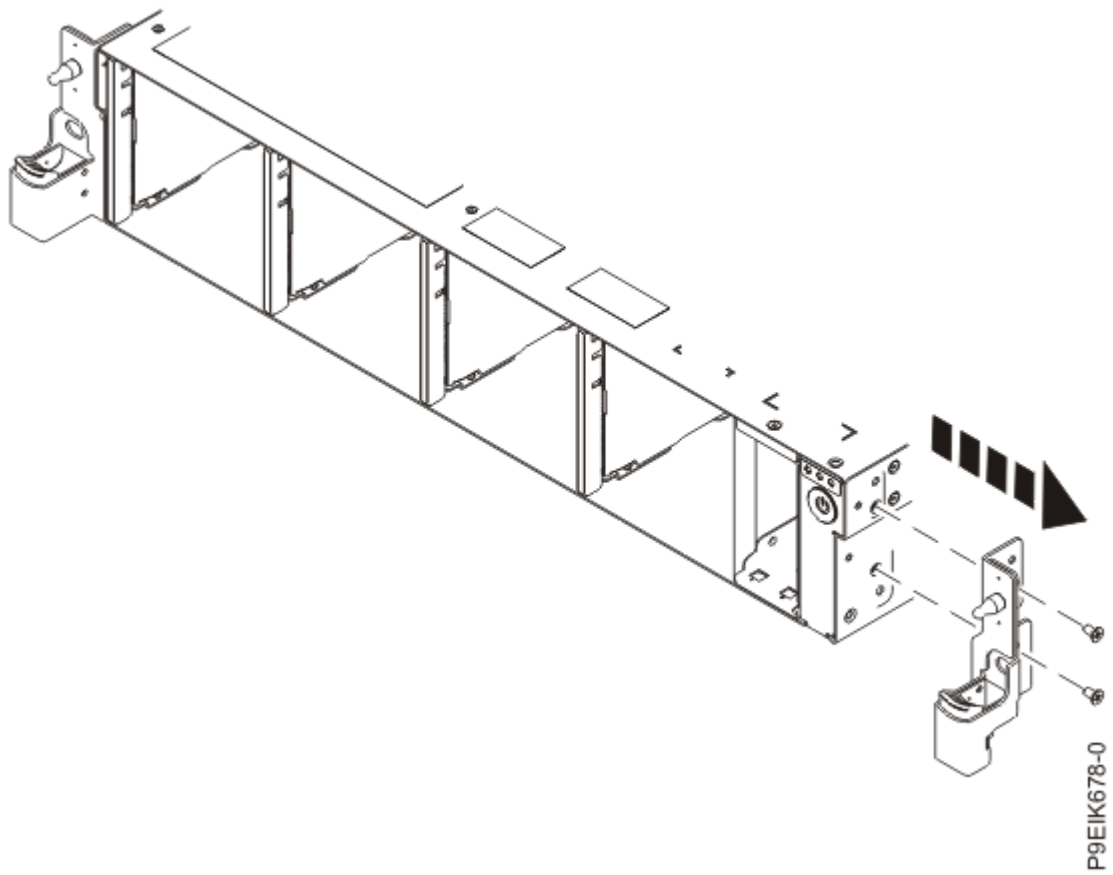

Figure 103. Removing the rack installation support
4. Remove the rack installation support from the side of the system as shown in Figure 103 on page 117.